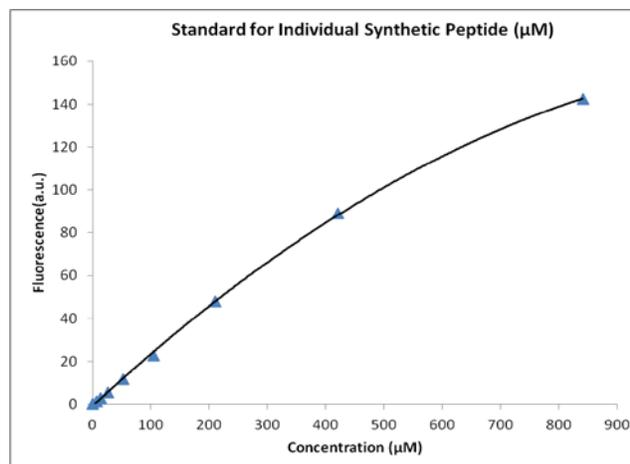

Figure 2. Example standard curve for individual synthetic peptide.
- For the individual synthetic peptide sample with a molecular weight **outside** of 900-1500Da, use the last column in Table 1 to generate a standard curve (Fluorescence vs. μM , Figure 2), measuring samples in μM and converting μM to $\mu\text{g/mL}$ using the following formula: